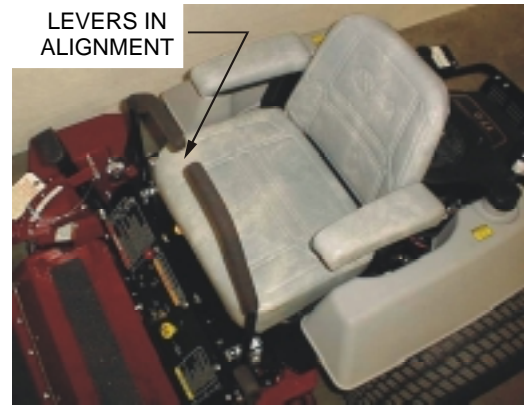

FIG. 5
- If the levers do not align with each other, when in the neutral position, (See Fig. 5) loosen the hardware and make the appropriate adjustment by sliding/tilting the lever(s) forward or backward until properly aligned and tighten hardware.